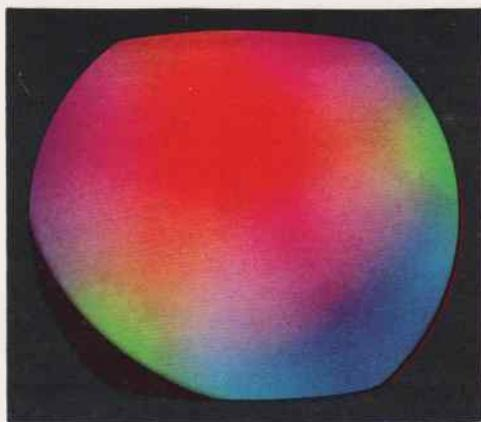

FIG. 3-14. Incorrect adjustment of the neck-purity magnet.
6. *Adjust the neck-purity magnet.* This magnet aims the beams of the electron guns towards the proper deflection centers. When proper adjustment is made, a red "blob" should appear in the center of the screen as shown in Fig. 3-13. If the red blob is off-center, as shown in Fig. 3-14, the neck-purity magnet requires adjustment. Spread the tabs on the magnet to increase field strength and increase movement of the red blob in a radial direction. Rotate the entire assembly to move the blob in a circular path. The action is similar to that of a PM centering device in black-and-white receivers. With a little practice you will learn how to center the